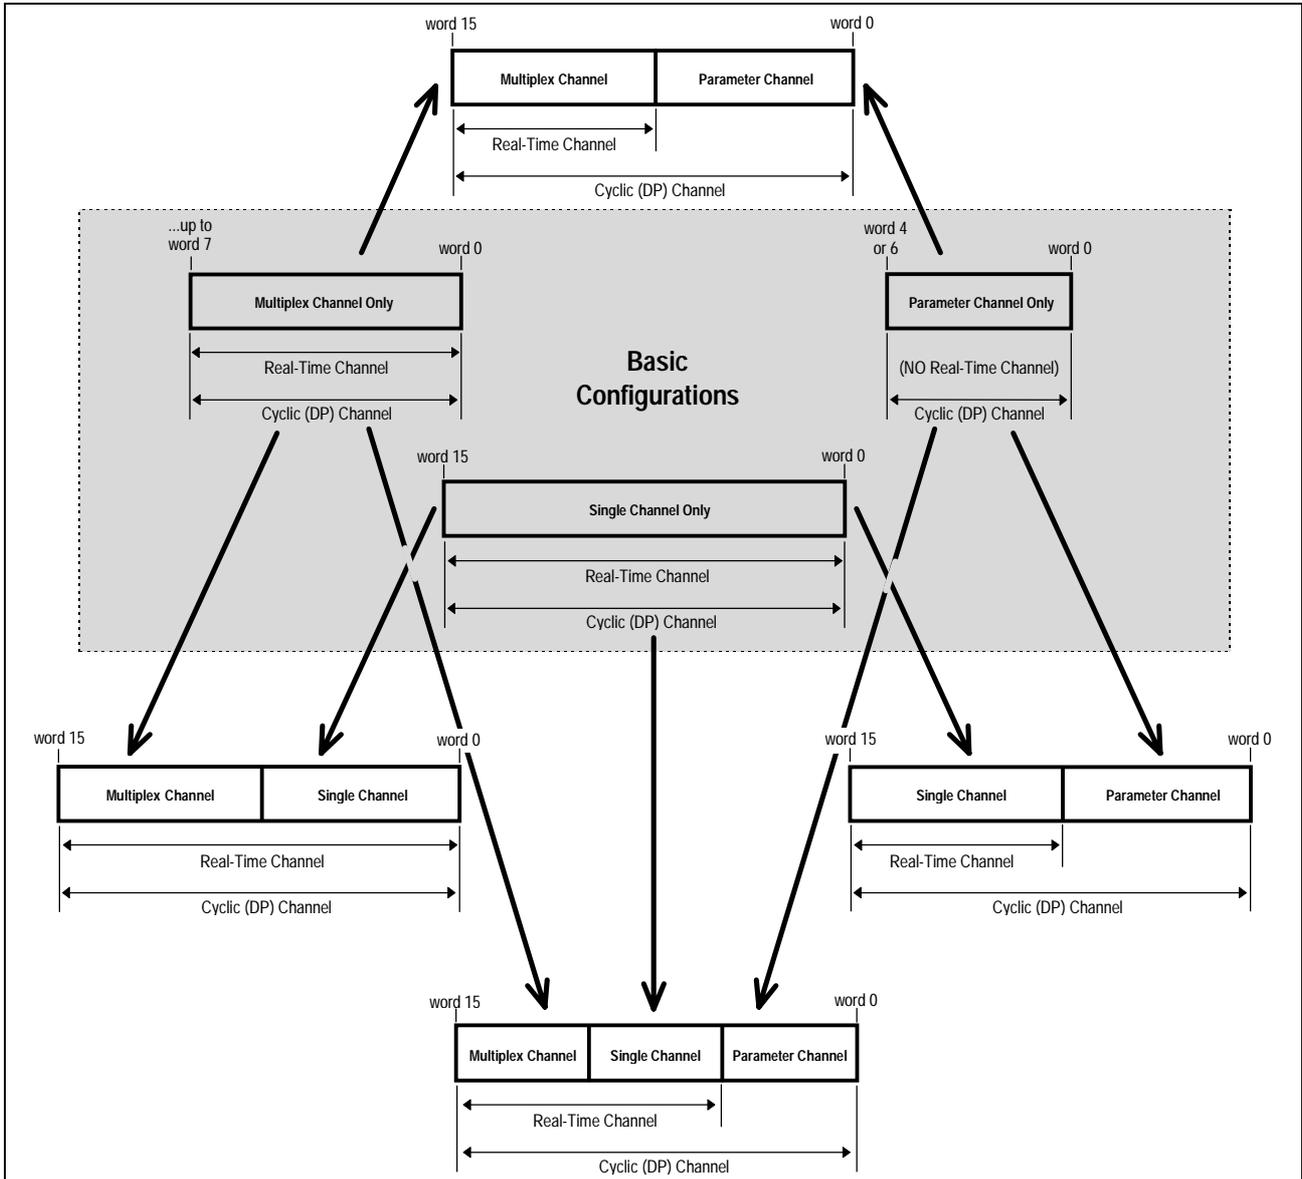

Figure 1-3: Configuration Options for the Cyclic Data Channel (7 possibilities)
Note: The parameter channel is always allocated as the first 4 or 6 words of the Profibus cyclic (DP) channel. The length of the parameter channel plus the length of the real-time channel used to exchange cyclic data represent the entire length of the DP channel (maximum total length: 16 words). See *Figure 1-3: Configuration Options for the Cyclic Data Channel (7 possibilities)* for DP channel configuration options. For an example of how to set up the parameter channel, see *Parameter Channel Example* on page 2-20.